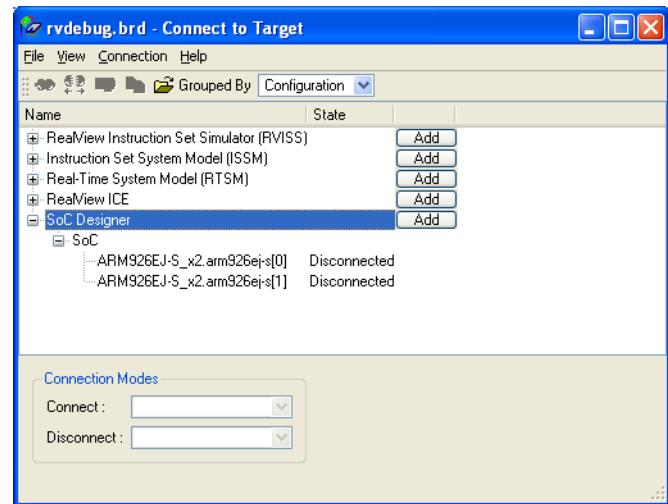

Figure 3-14 SoC Designer model connection in the Connect to Target window
7. Double-click on the target to connect. Figure 3-14 shows example targets for an ARM processor model: